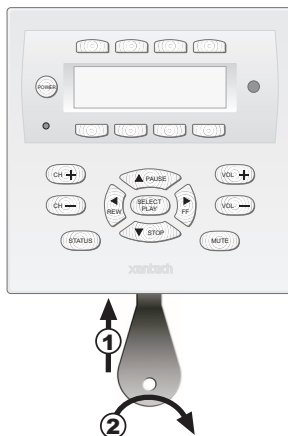

Figure 9 – Removing the MRC88 Keypad from the wall
1. Insert the MRC88 keypad removal tool into the slot at the bottom of the keypad, as shown in **Figure 9**, being sure that the tool is inserted so that the “insert to here” line slides under the Keypad. This will reduce the risk of damage to the Keypad or the wall.